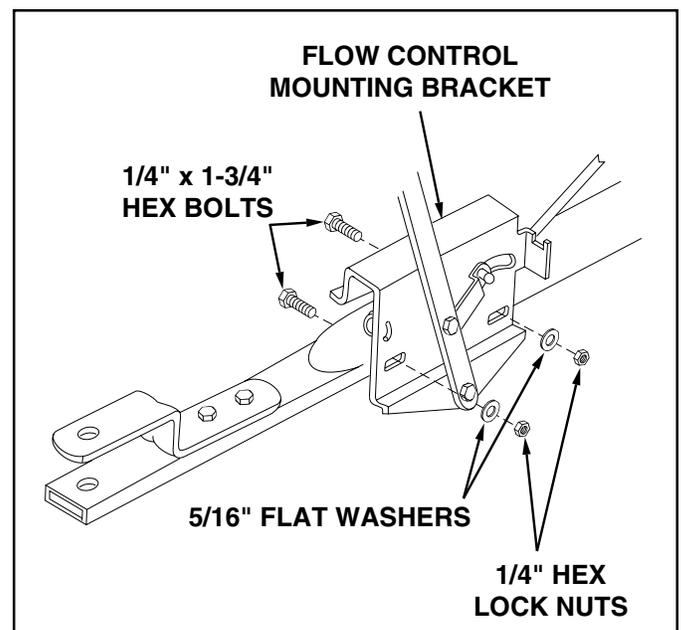

FIGURE 13
21. Assemble the flow control mounting bracket to the hitch tube using two 1/4" x 1-3/4" hex bolts, two 5/16" flat washers and two 1/4" hex lock nuts. **DO NOT TIGHTEN AT THIS TIME.** See figure 13.